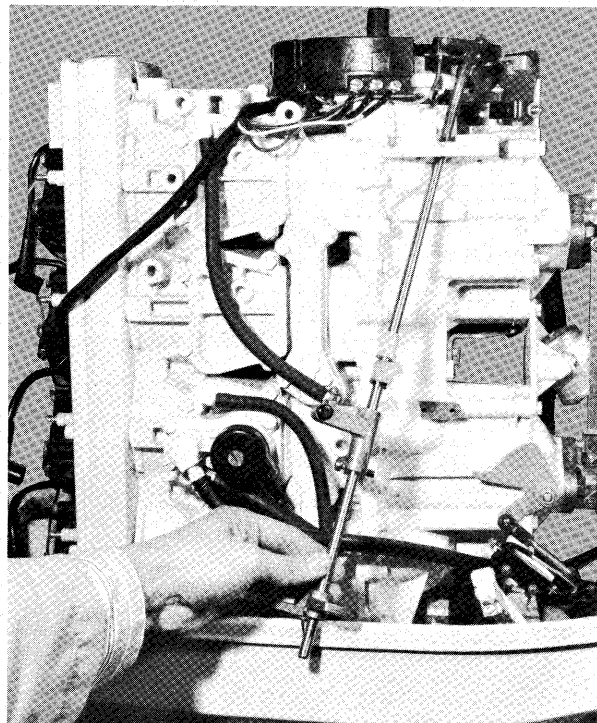

Figure 2D - Removing Towershaft
- G. Slide bearing from upper towershaft mounting hole. Lift towershaft assembly up and away from powerhead and remove same from engine. See figure 2D.